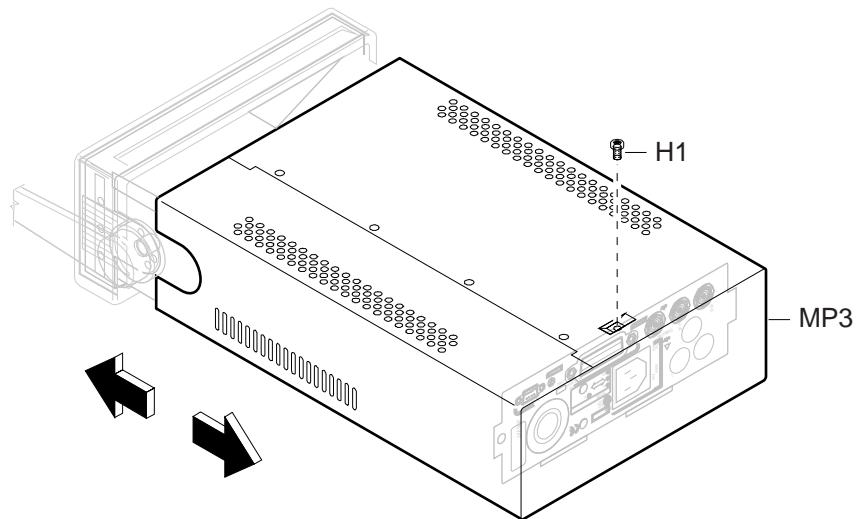

Figure 3-2. Bottom View for Cover Removal
- 3 Remove the screw (H1) located at the bottom near the rear of the cover (MP3) as shown in Figure 3-2.